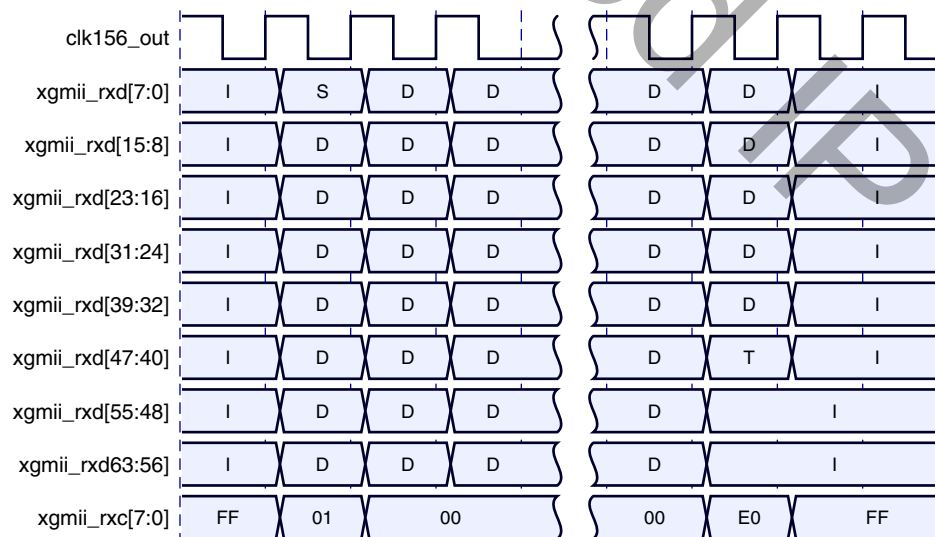

Figure 3-15: Frame Reception Across the Internal 64-bit Client Interface
The timing of a normal inbound frame transfer is shown in Figure 3-15. As in the transmit case, the frame is delimited by a Start character (S) and by a Terminate character (T). The Start character in this implementation can occur in either lane 0 or in lane 4. The Terminate character, T, can occur in any lane.